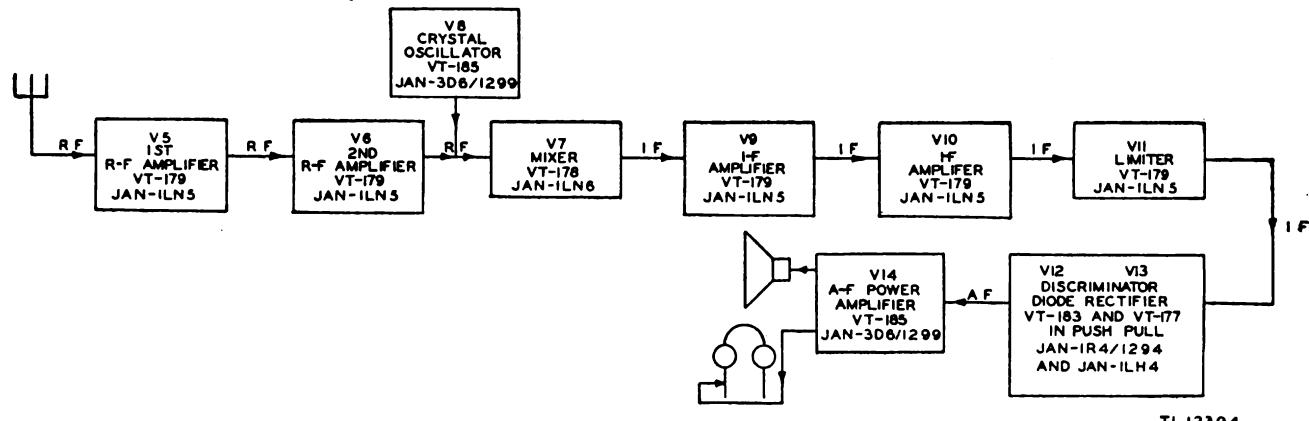

Figure 46. Radio Receiver and Transmitter BC-659-( ), block diagram of receiver section.
a. GENERAL CIRCUITS. A block diagram of the receiver section of Radio Receiver and Transmitter BC-659-( ) is shown in figure 46. The receiver uses a superheterodyne circuit. In addition to its normal function, the receiver provides automatic frequency control of the transmitter. The high-frequency circuit includes two